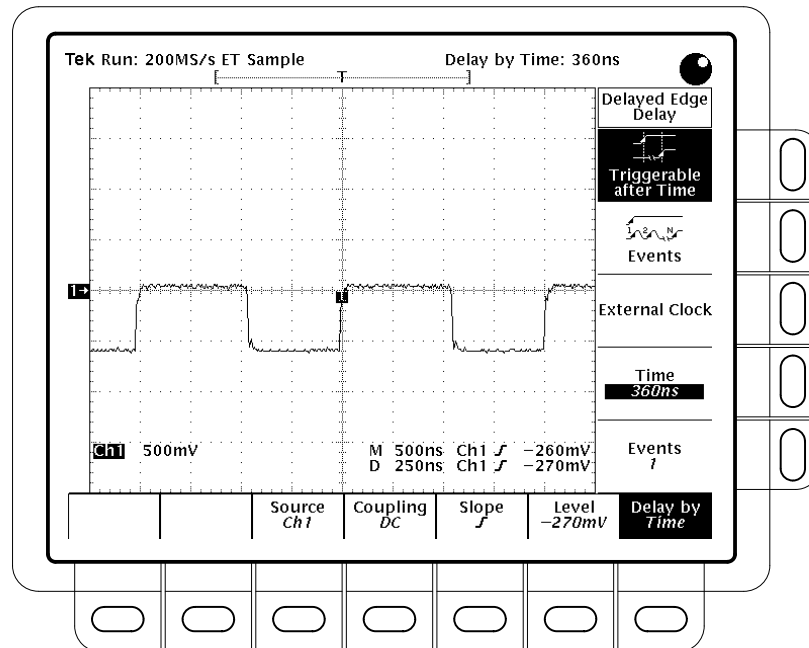

Figure 3–8: Delayed Trigger Menu
2. Press **SHIFT DELAYED TRIG** → **Delay by** (main) → **Triggerable After Time, Events, or Ext clks** (side) (Figure 3–8).